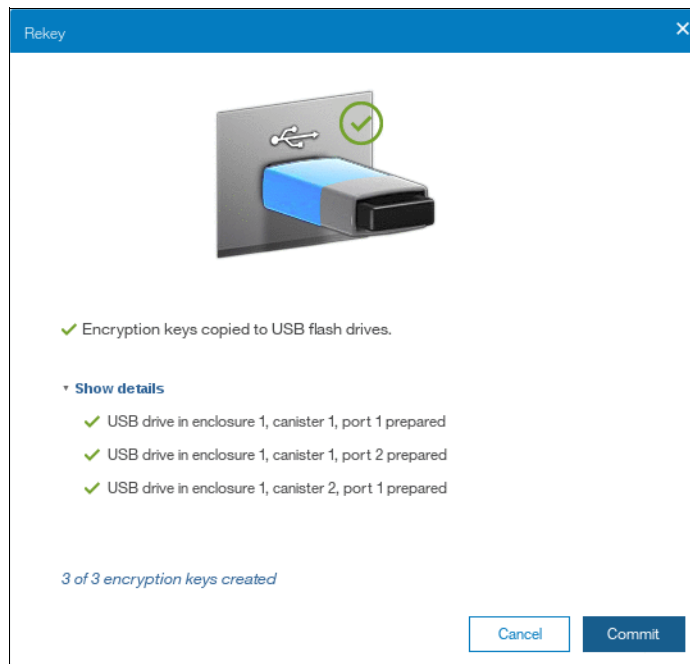

Figure 13-80 Writing new keys to USB flash drives
3. If the system detects a validated USB flash drive and at least three available USB flash drives, new encryption keys are automatically copied on the USB flash drives, as shown in Figure 13-80. Click **Commit** to finalize the rekey operation.